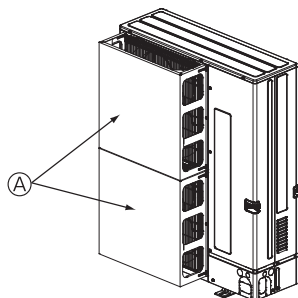

Fig. 2-5
- ② Install an optional air guide if the unit is installed in a location where strong winds from a typhoon, etc. may directly enter the air outlet. (Fig. 2-5)